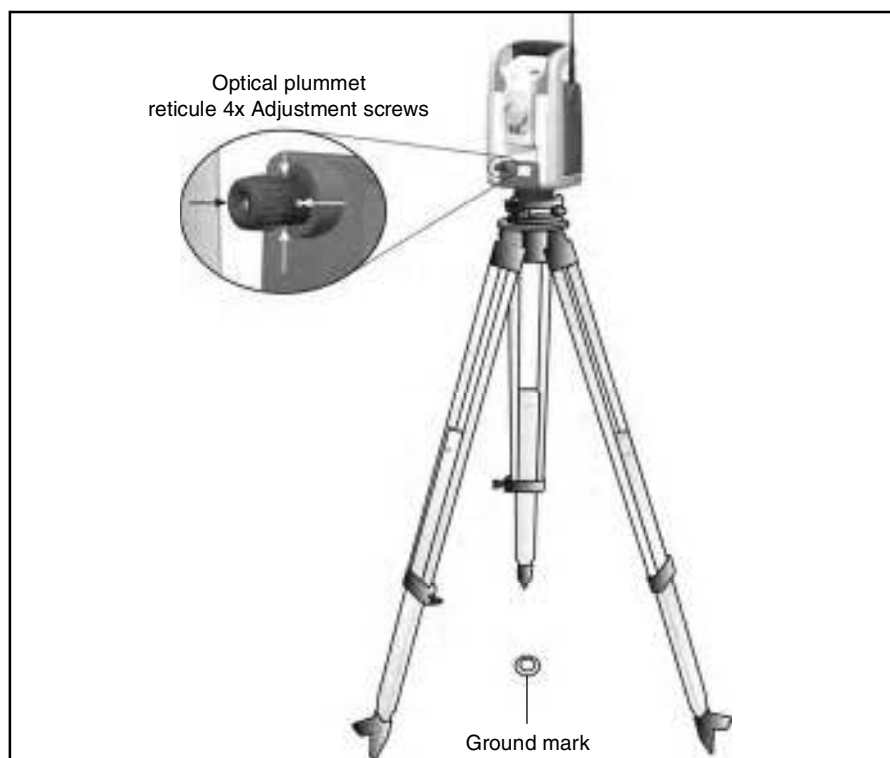

Figure 4.37 Optical plummet adjustment
1. Set up the instrument and level it over a ground mark so that the tripod height is 1.5 m (± 0.1 m) (4.920 ft. (± 0.328 ft.)). figure 4.37